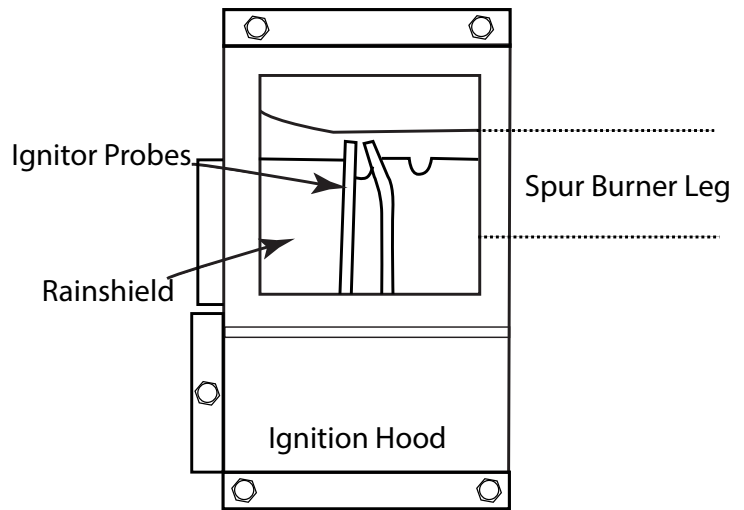

Fig. 14 Installing ignition hood.
Step 5: Install the ignition hood over top of the ignition probe assembly into the existing pre-punched holes of the burner pan by using the five #10 - 24 x 1/2" provided screws. See Fig. 14.